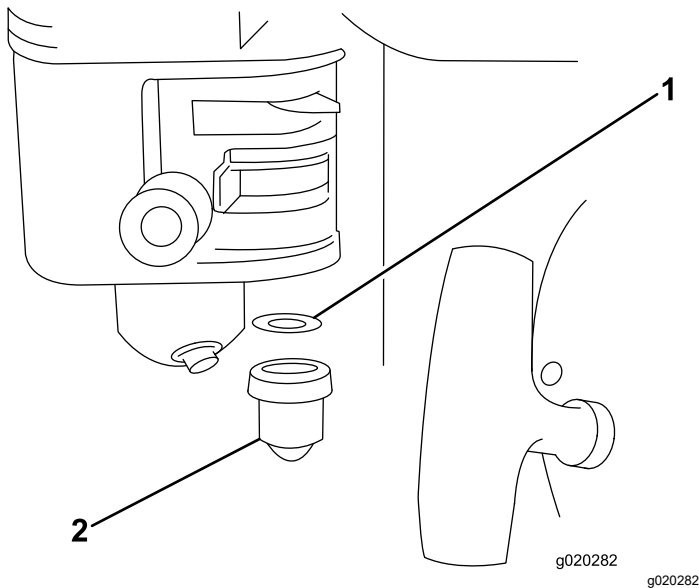

Figure 18
4. Remove the sediment cup and O-ring (Figure 18).